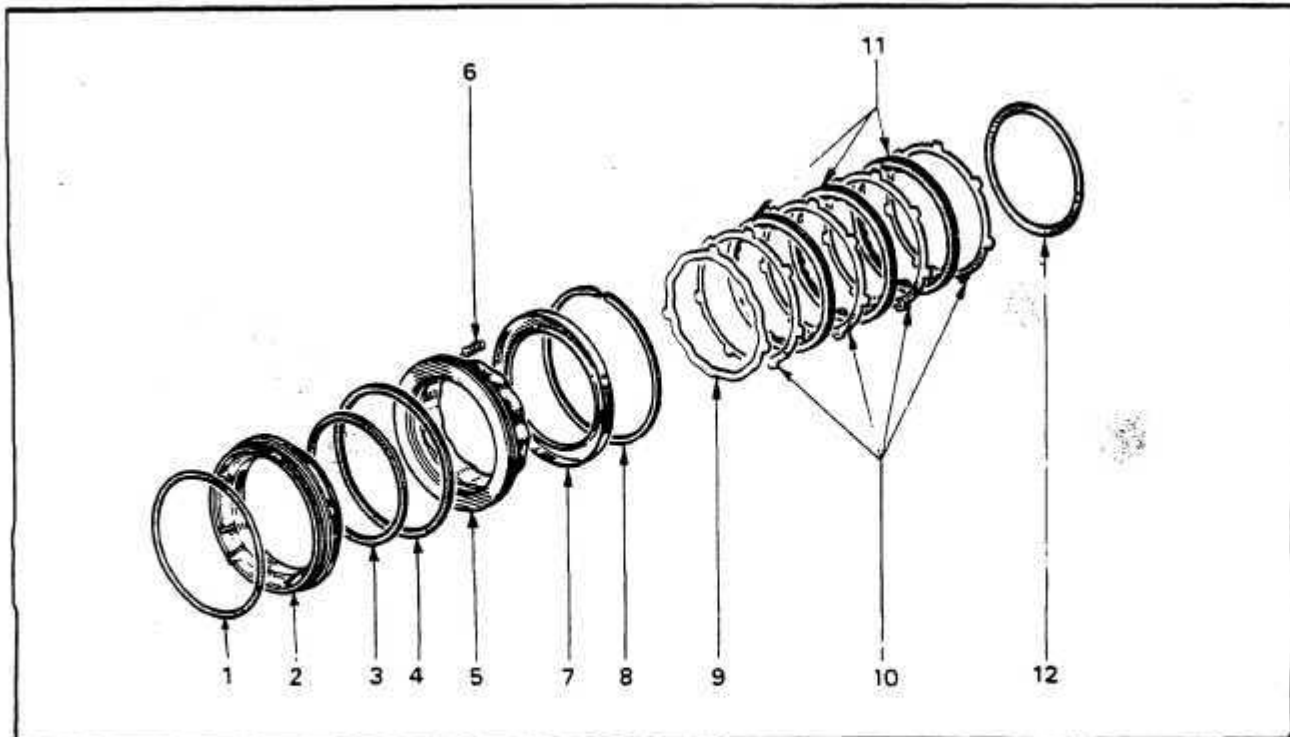

Fig. 43 BRAKE B-2 DISASSEMBLED
REPAIR**BRAKE B2 — Fig. 43**
4. Separate the piston from the support and remove the seals 1, 3 and 4. *Fig. 43*
1. Lubricate the two (2) square section seals and fit the outer seal on the piston. Fit the inner seal in the groove on the inside of the piston. *Fig. 43*
2. Lubricate the new support seal with transmission fluid and fit on the piston support. *Fig. 43*